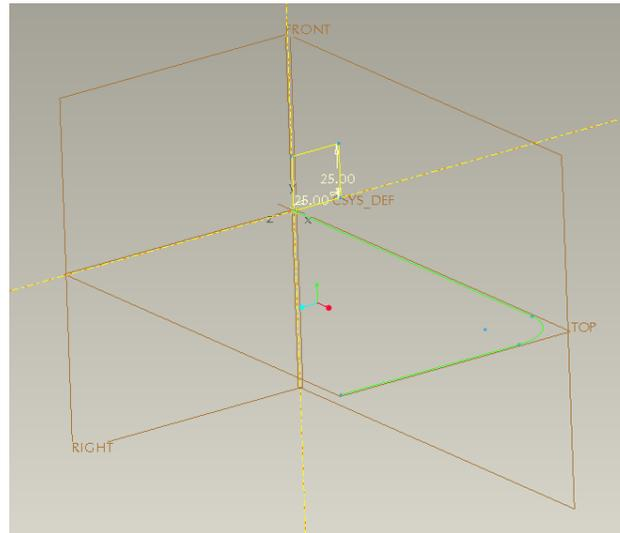

Figure 3 Square cross section
- b) Select Variable Section Sweep to create the square cross section as shown in Figure 3.